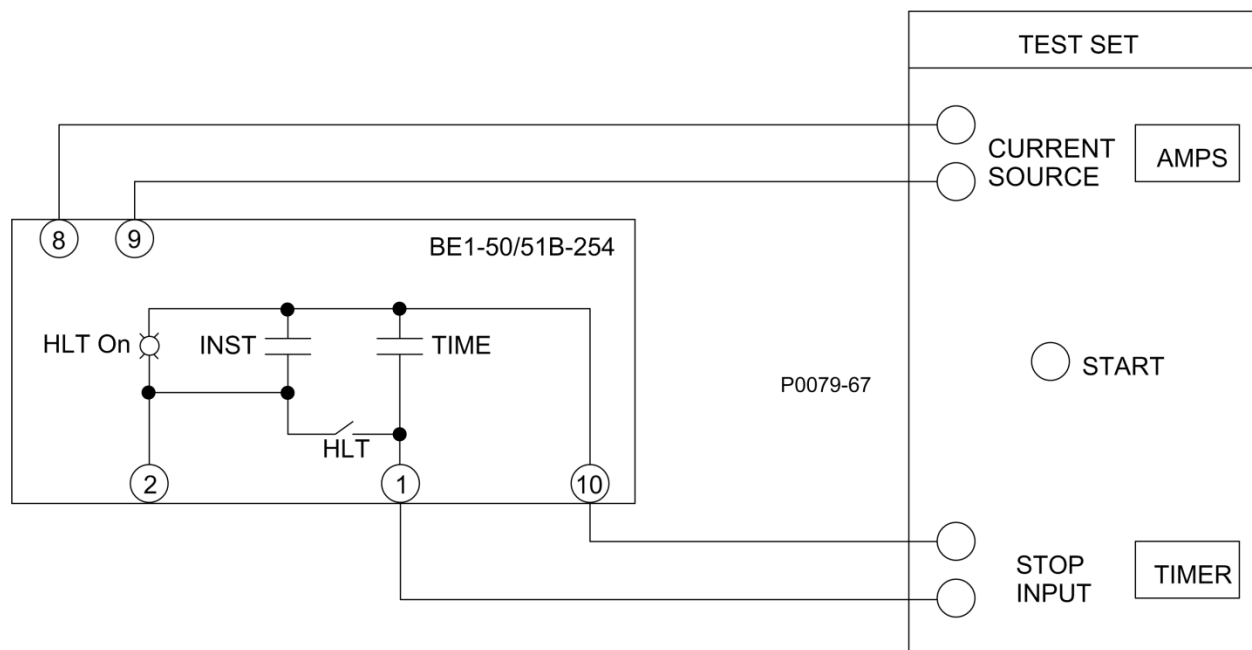
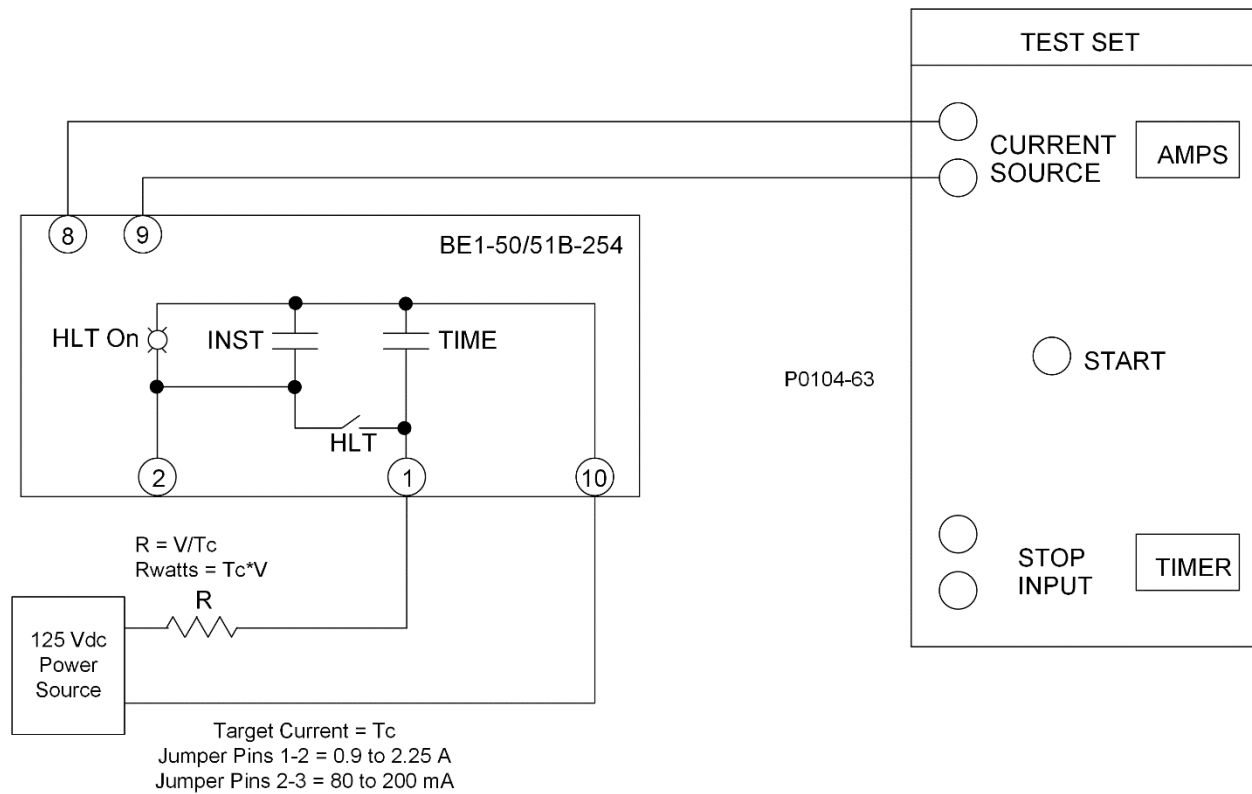

Figure 5-1. Pickup and Timing Test Setup
Figure 5-2. Target Operational Test Setup
The following procedures verify operation of the BE1-50/51B-254 relay. Figure 5-1 and Figure 5-2 are intended primarily as an illustration of the principles involved. Other test setups known to be capable of testing with the stated and implied tolerances (including equipment specifically designed for testing relays) may be used.
- Connect test setup as shown in Figure 5-1.
- Connect test setup as shown in Figure 5-2.